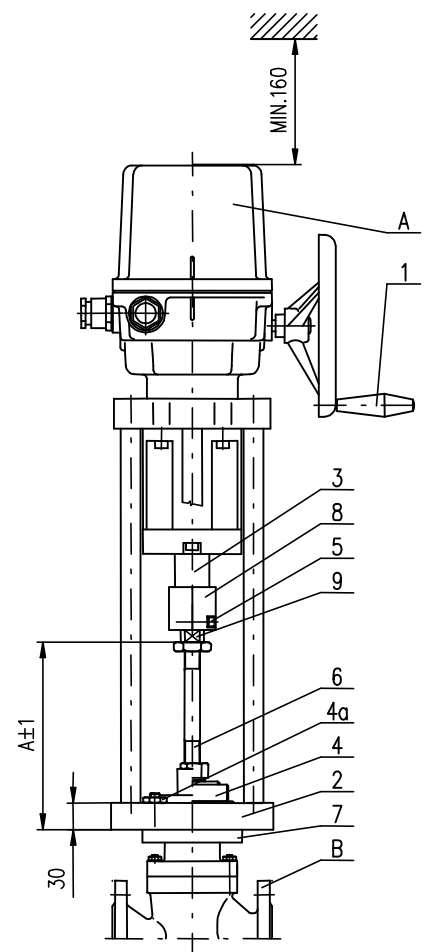

Fig.2
- Set the actuator (A) and the valve (B) to the position "closed".
- Loosen and unscrew two screws (5) on the actuator shaft (3) and disconnect the coupling clamping parts (8)
- Screw the coupling nut (8) onto the valve output shaft (6) (max. 28mm) to have an allowance between the coupling nut (9) and the actuator shaft (3) after the actuator is sat on.
- Place the actuator (A) onto the valve (B) and fix the actuator slightly with the screws (4a), or with the central nut (4) (according to shape of connecting flange of EA) in the way you be able to move it.
- By turning hand wheel (1) move end shaft EA (3) toward thread coupling (8) screwed onto valve output shaft (6) (or unscrew thread coupling)
- Put the clamping parts of the thread coupling (8) on, and tighten the both coupling screws (5) to have the coupling nut able to rotate
- Tighten the screws (4a), or central nut (4) with the cross system to fasten the actuator (2) and valve (7) flanges.
- Check the connection diameters in accordance with the Fig. 2.
- Unscrew the coupling nut (8) by one more revolution (to create the pre-stress against the valve seat), and tighten the coupling screws (5) firmly